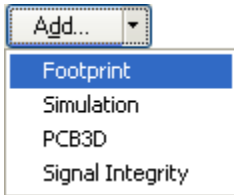

Figure 13. Add a footprint model to the component.
1. Click the small arrow on the **Add** button in the **Model s** region of the *Library Component Properties* dialog, and select **Footprint** from the list, as shown in Figure 13.